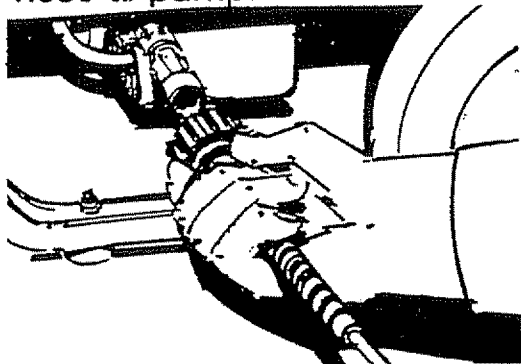

FIG. 5
- Attach other end of high pressure hose to the high pressure fitting on the pump (Fig. 5). Tighten by hand.